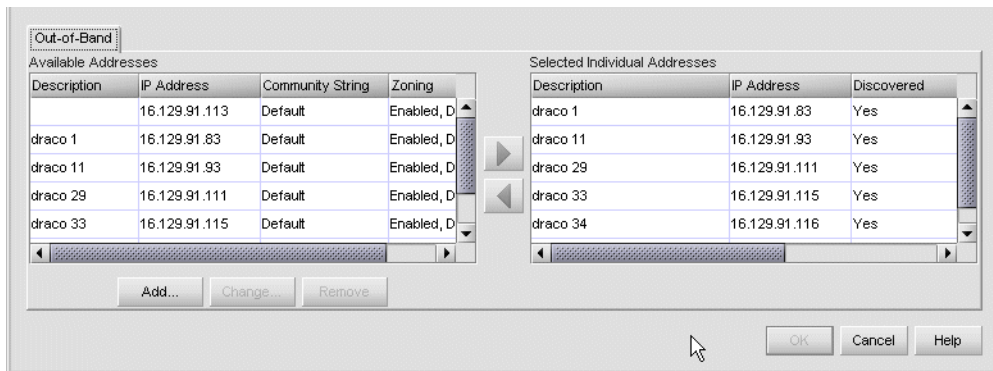

Figure 14: Discover Setup dialog box
1. At the HAFM application (Element manager or EWS main window), select the Setup option from the Discover menu. The Discover Setup dialog box displays (Figure 14).